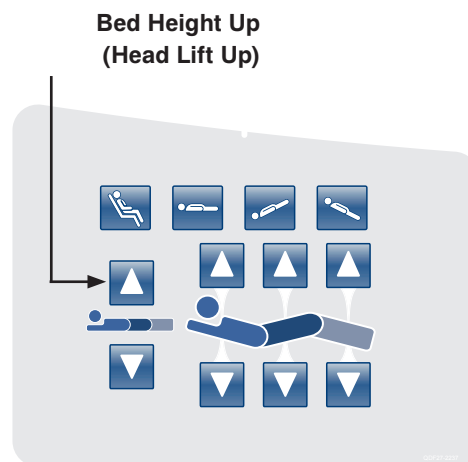

Figure 17: Head Siderail Control Panel - (Right Side Shown)
19. Place the bed at -12 degrees Reverse Trendelenburg by pressing the **Bed Height Up (Head Lift Up)** button as shown in Figure 17 below. Verify -12 degrees +/- 0.1 with the inclinometer you previously placed on the bottom of the litter frame in step 11.